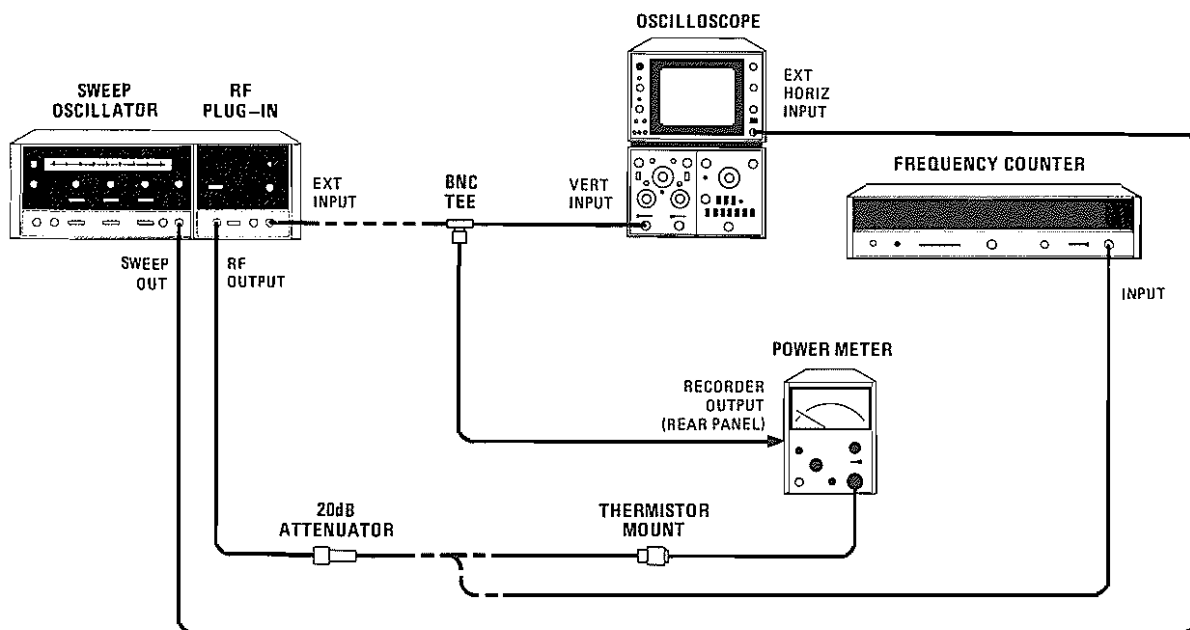

Figure 2-4. Operation Verification Test Setup
- a. Connect equipment as shown in Figure 2-4 with frequency counter connected to 20 dB attenuator and no connection to RF Plug-in EXT INPUT.
- a. Connect equipment as shown in Figure 2-4 with BNC tee connected to EXT INPUT and thermistor mount connected to 20 dB attenuator. Set RF Plug-in ALC switch to EXT.